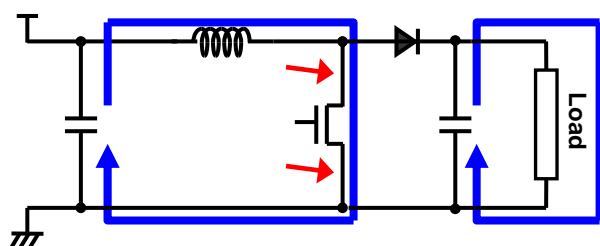
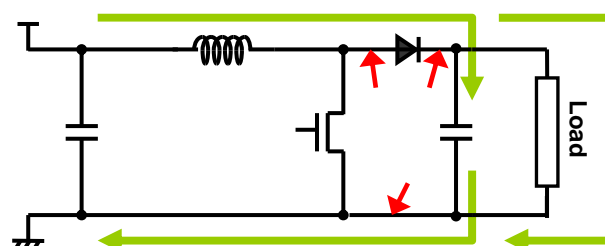

Figure 1. MOSFET-ON
Figure 2. MOSFET-OFF
- Figure 1 and Figure 2 show the current pathways of application circuits when MOSFET is turned ON or when MOSFET is turned OFF, respectively. As shown in Figure 1 and Figure 2, the currents flow in the directions of blue or green arrows. The parasitic components, such as impedance, inductance or capacitance, formed in the pathways indicated by the red arrows affect the stability of the system and become the cause of noise. Reduce the parasitic components as much as possible. The current pathways should be made by short and thick wirings.